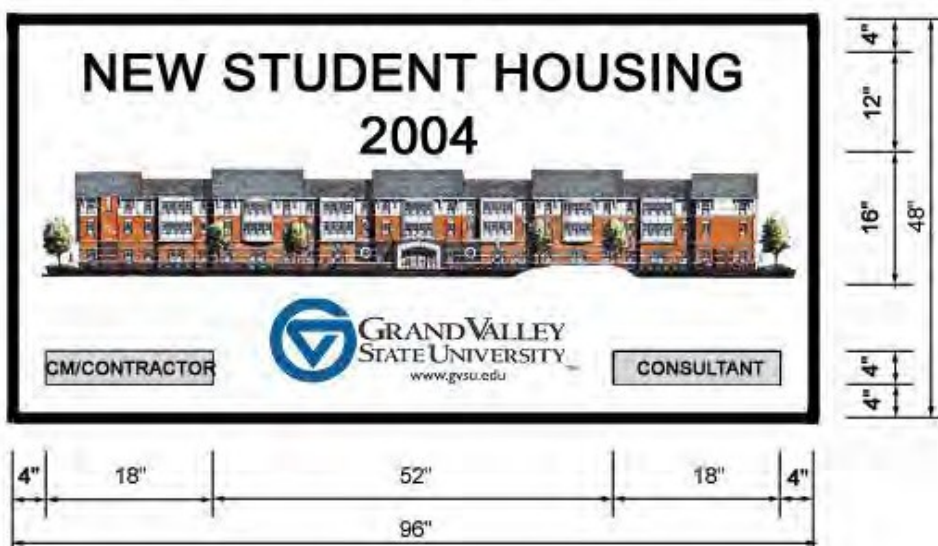

FIGURE 1
- 1 Standard project identification signs shall conform to Figure 1 below. Quantities and locations to be confirmed with GVSU project manager and identified on bid documents. Grand Valley logo to conform to GVSU trademark standard. Project title to be Helvetica Medium. CM/Contractor and Consultant to be Helvetica.